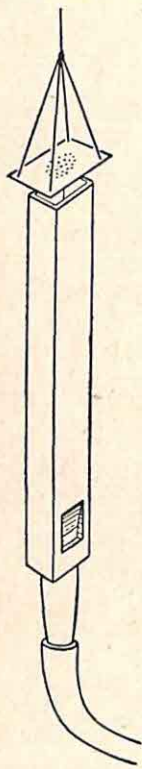

FIG. 71.
*Expt. C.*—An organ pipe is connected to a wind chest and blown gently. While the pipe is sounding, a light tray of stiff paper carrying a few grains of *fine, dry* sand is lowered into position over the mouth of the pipe (Fig. 71). The bounding action of the sand indicates that the paper is in vibration; that